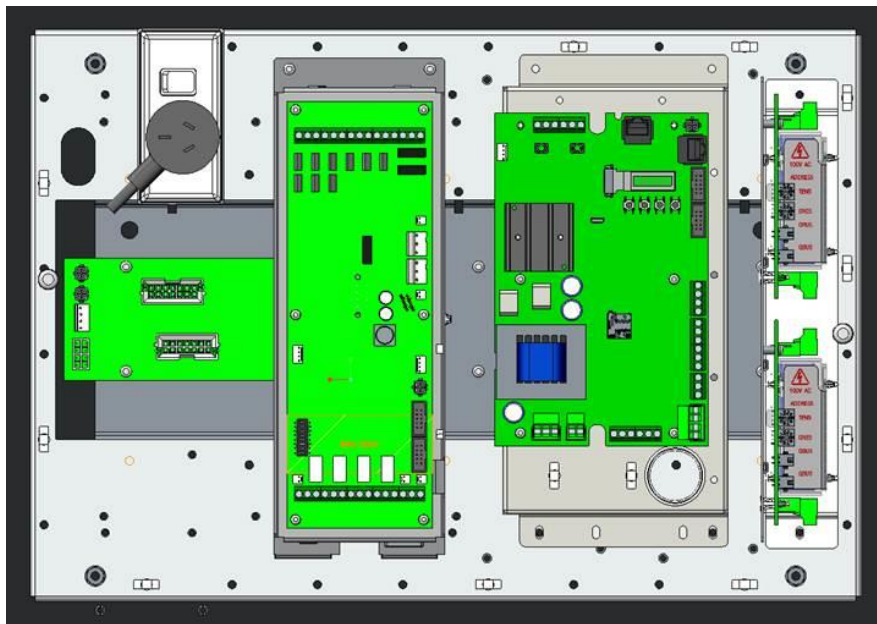

Figure 3 8U Expansion Cabinet with APS, T-Gen 60, and Switching/Splitters
- An 8U blank door expansion cabinet (4100-FP1086). This has space for (see Figure 3):